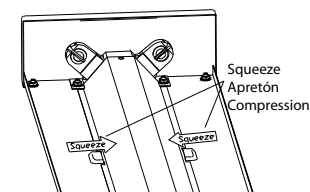

Figure 3
4. Remove Screw from each end of Wireway Cover (4) squeeze to release from the fixture housing. **See Figure 3.**